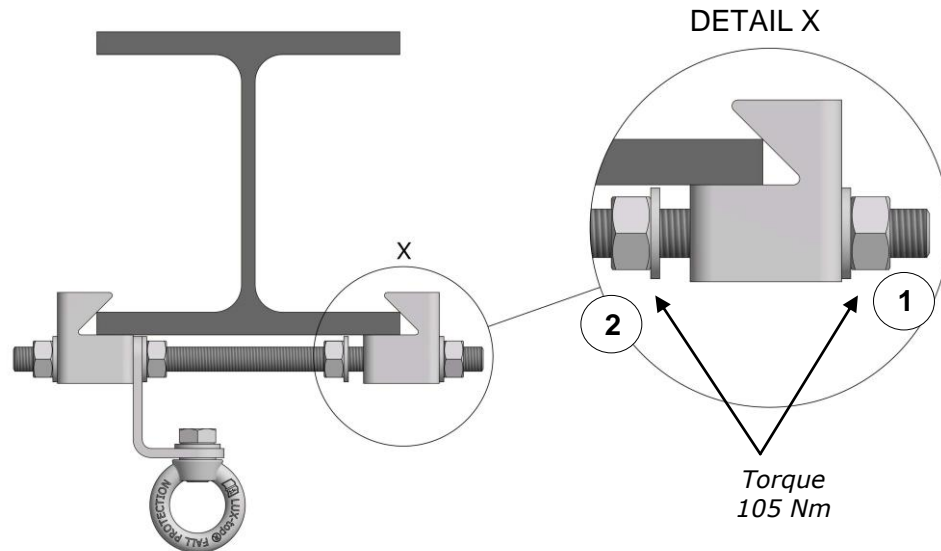

Figure 3
- Position **LUX-top® QUICKFIX II** at the required place according to *Figure 3* . Then firstly tighten the outer nut with a torque of 105 Nm (1). After that tighten the inner nut with a torque of 105 Nm (2).